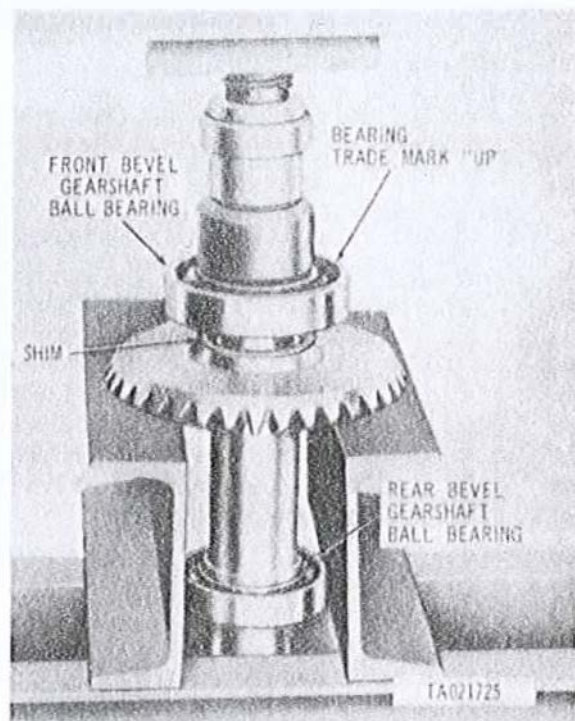

Figure 3-227. Pressing front bevel gearshaft ball bearing on gearshaft.
(6) Position shim (fig. 3-227) of predetermined thickness (fig. 3-224) over bearing hub of front fan drive bevel gearshaft, and press bevel gearshaft front ball bearing on gearshaft (fig. 3-227). Install bevel gearshaft rear ball bearing in the same manner. Secure gearshaft rear ball bearing with retaining ring (34, fig. 3-216).